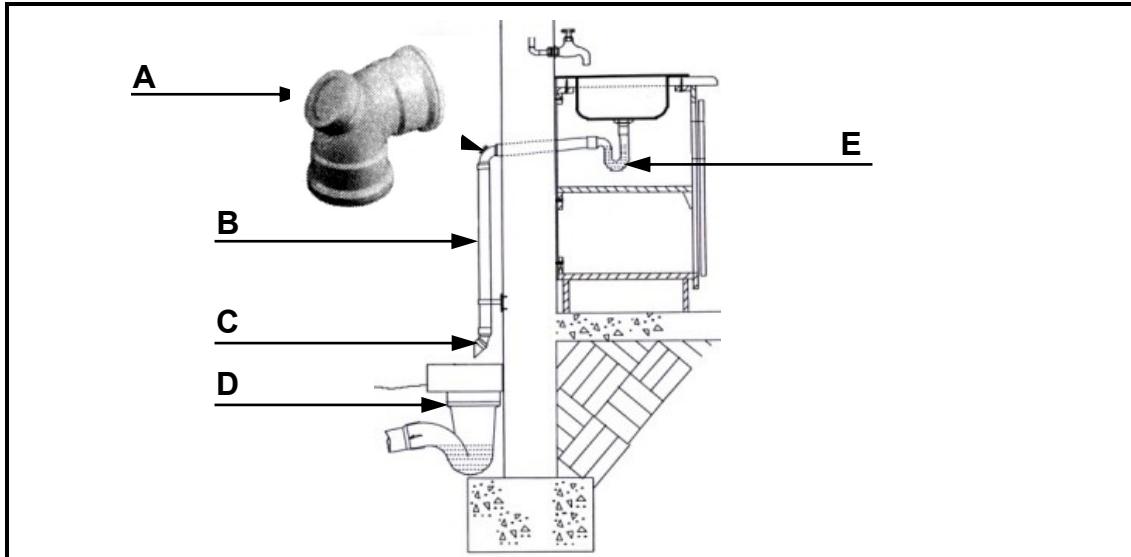

FIGURE 5.2
- 5.2 Answer the following questions with regard to the sink installation in FIGURE 5.2.